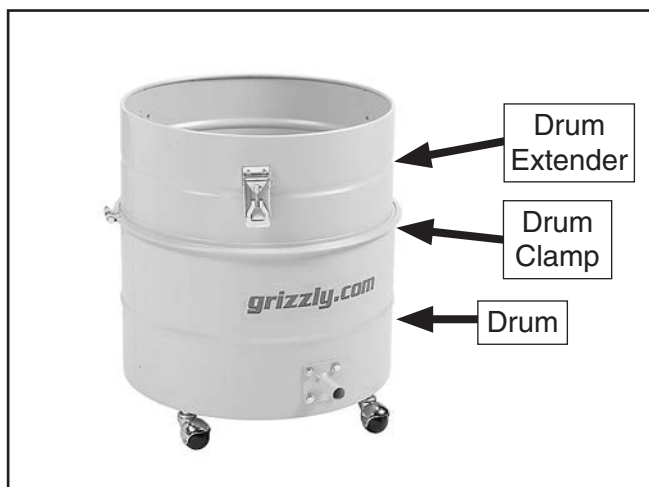

Figure 21. Drum extender on drum.
12. Place the drum extender onto the drum, see **Figure 21**.